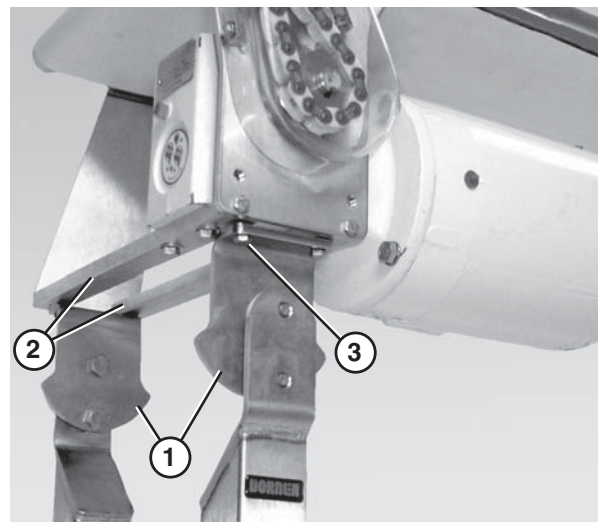

Figure 9
- Attach both brackets (Figure 9, item 1) to the heavy mount gearhead support bars (Figure 9, item 2) using four M6 - 1.0 x 20 mm hex head cap screws (Figure 9, item 3).
- Tighten the heavy mount gearhead support bar screws (Figure 9, item 3) to 80 in•lb (9 N•m).
- Tighten the bracket screws (Figure 9, item 1) to 50 ft•lb (72 N•m).